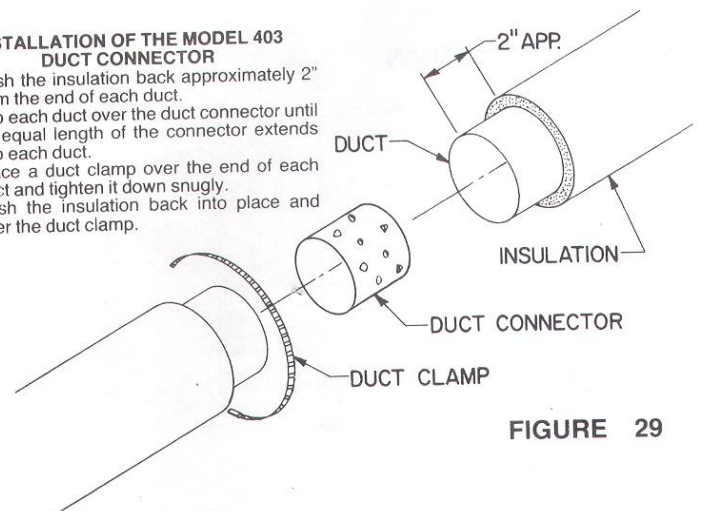

FIGURE 29
- NOTE: If the wall covering is brick or stone, use appropriate masonry fasteners. Mount the combustion air assembly with "TOP" upward to prevent rain from entering the assembly. Be sure the 6 inch diameter opening around the air duct is sealed with insulation material to prevent cold air from entering through the wall. If it is necessary to splice the duct, a model 403 duct connector should be installed as described by figure 29.